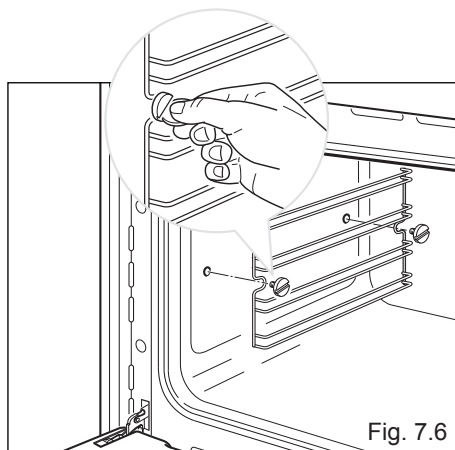

Fig. 7.6
- Assemble the wire racks to the oven walls using the 2 screws (fig.7.6).